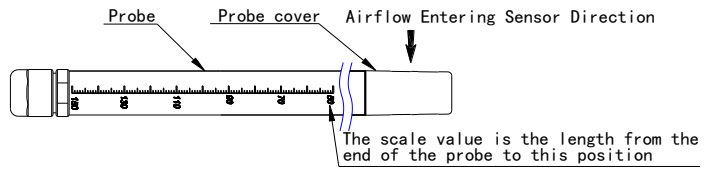

Fig 2
- (2) The depth of the probe insertion: the probe have scales as shown in Fig 2 below. The scale value is the length from the end of the probe to this position. It means, the scale which can be read from outside is the depth of the inserted part.
- (3) The flow direction and angle: It was calibrated in standard wind tunnel with fixed air flow direction in factory. So, it should be installed with the same flow direction, as Fig 2 and 3 below. The flow direction should be exactly 90° angle with the scale line on the probe, as shown in Fig 3.